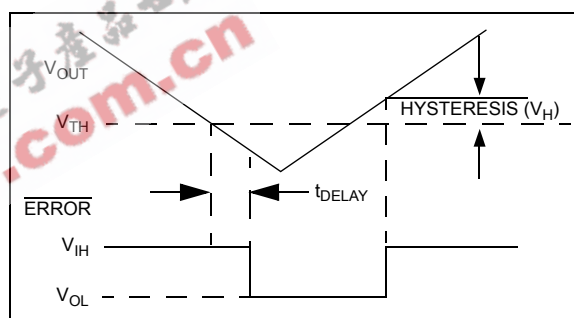

FIGURE 4-2: $\overline{\text{ERROR}}$ Output Operation.
$\overline{\text{ERROR}}$ is driven low whenever V_{OUT} falls out of regulation by more than -5% (typical). This condition may be caused by low input voltage, output current limiting or thermal limiting. The $\overline{\text{ERROR}}$ threshold is 5% below rated V_{OUT} , regardless of the programmed output voltage value (e.g. $\overline{\text{ERROR}} = V_{OL}$ at 4.75V (typ.) for a 5.0V regulator and 2.85V (typ.) for a 3.0V regulator). $\overline{\text{ERROR}}$ output operation is shown in Figure 4-2.
- Changes to Figure 4-2.